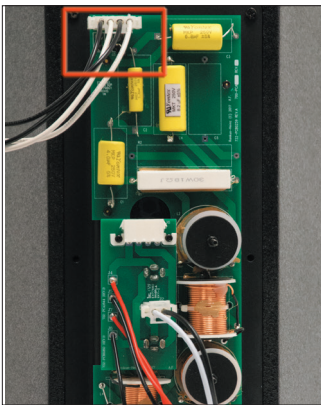

Figure 2
2. On the inside of the connector panel, you'll find a PC board and two connectors. The four position connector will be plugged into the connection at the top of the passive crossover network. Wires from this connector lead to the loudspeaker drivers. *Bordered in red in Figure 2.*
3. Unplug the four-wire cable assembly from the crossover network by squeezing the locking tabs on either side of the four-pin connector. *Bordered in red in Figure 2.*